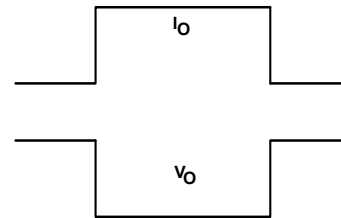
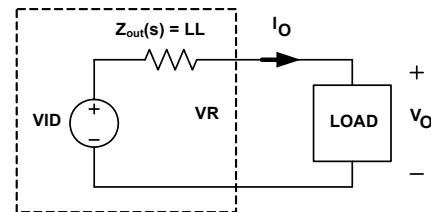

FIGURE 17. DESIRED LOAD TRANSIENT RESPONSE WAVEFORMS
FIGURE 23. VOLTAGE REGULATOR EQUIVALENT CIRCUIT
Assuming the compensator design is correct, Figure 17 shows the expected load transient response waveforms if  $C_n$  is correctly selected. When the load current  $I_{core}$  has a square change, the output voltage  $V_{CORE}$  also has a square response.
Figure 17 shows the desired load transient response waveforms. Figure 23 shows the equivalent circuit of a voltage regulator (VR) with the droop function. A VR is equivalent to a voltage source (= VID) and output impedance  $Z_{out}(s)$ . If  $Z_{out}(s)$  is equal to the load line slope LL, i.e., constant output impedance, in the entire frequency range,  $V_o$  will have square response when  $I_o$  has a square change.